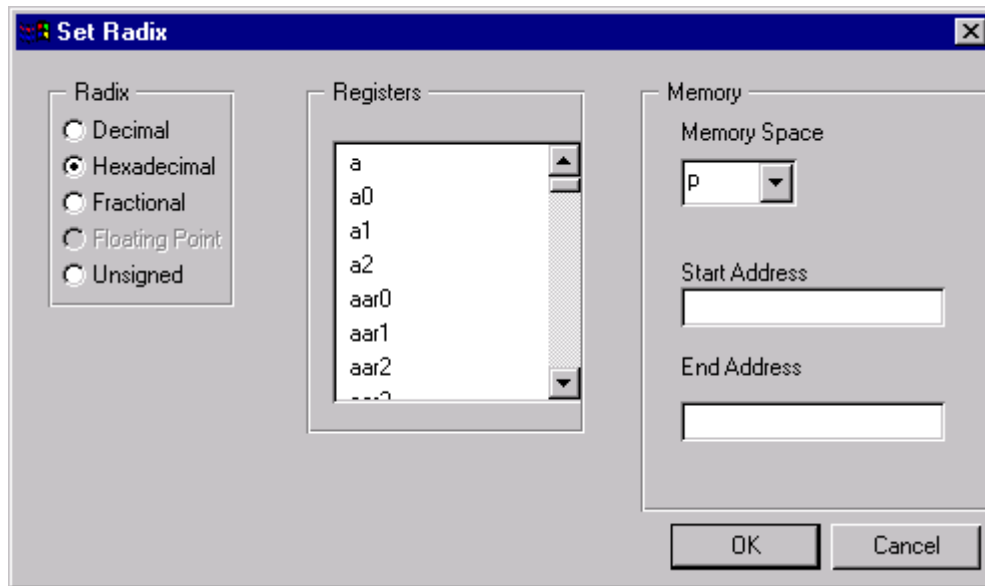

Figure 7-4. Displaying a Register or Memory Locations
1. From the **Modify** menu choose **Radix**, then select **Set Display**. The dialog box in Figure 7-4 appears.